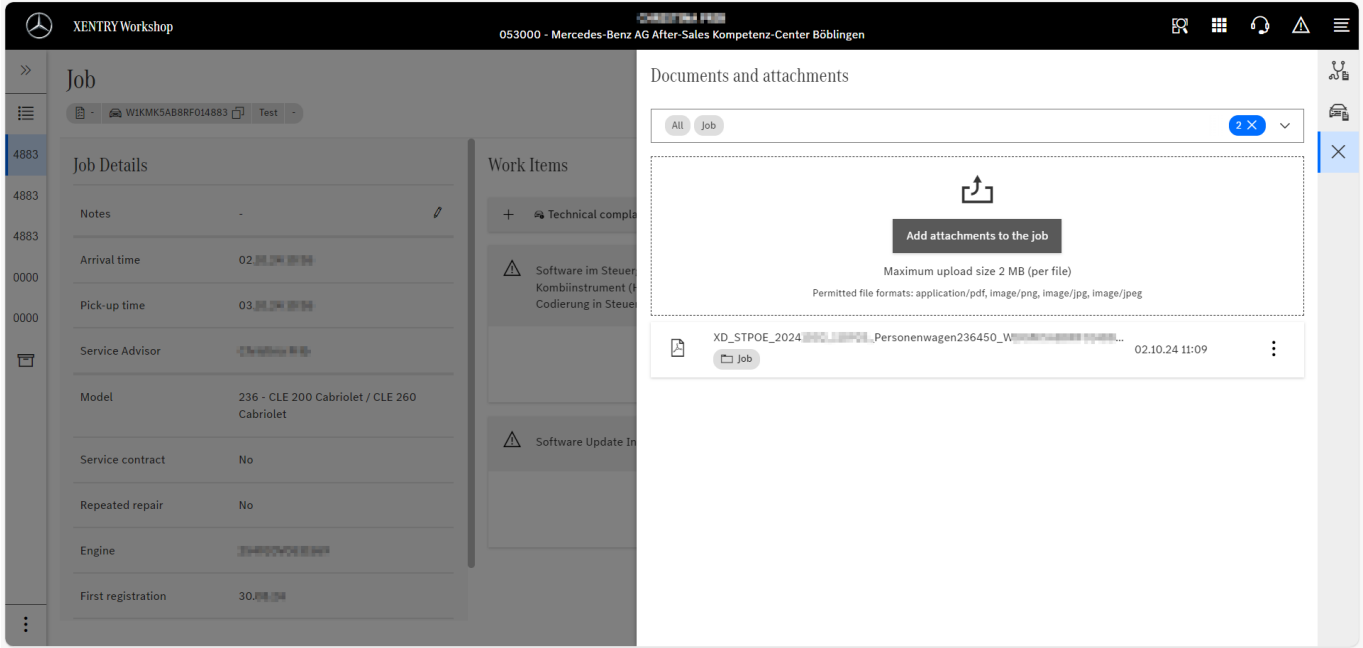

Fig. 44: XENTRY Workshop – Documents and attachments
3. Add the relevant diagnostic document by clicking on "Add attachments to order"; see Fig. 44.